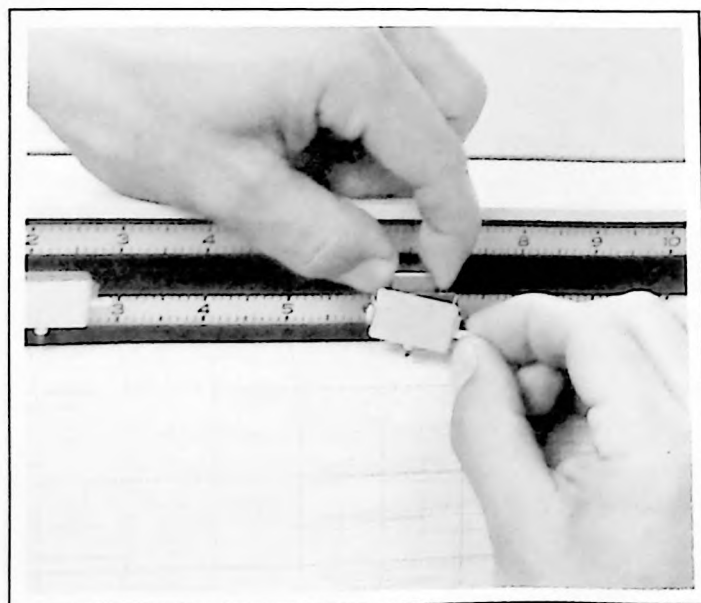

Figure 3-3. Disposable Pen Installation
- d. Install disposable pen in pen holder with tip pointing downwards and grasping projection to right (see Figure 3-3).